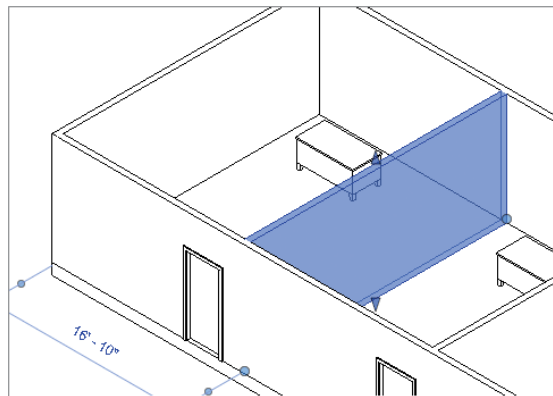

FIGURE 9.1 Select the wall.
1. Open the file `c09-Start.rvt` (`c09-Start-Metric.rvt`), and make sure the 3D view is activated. Select one of the walls (Figure 9.1).